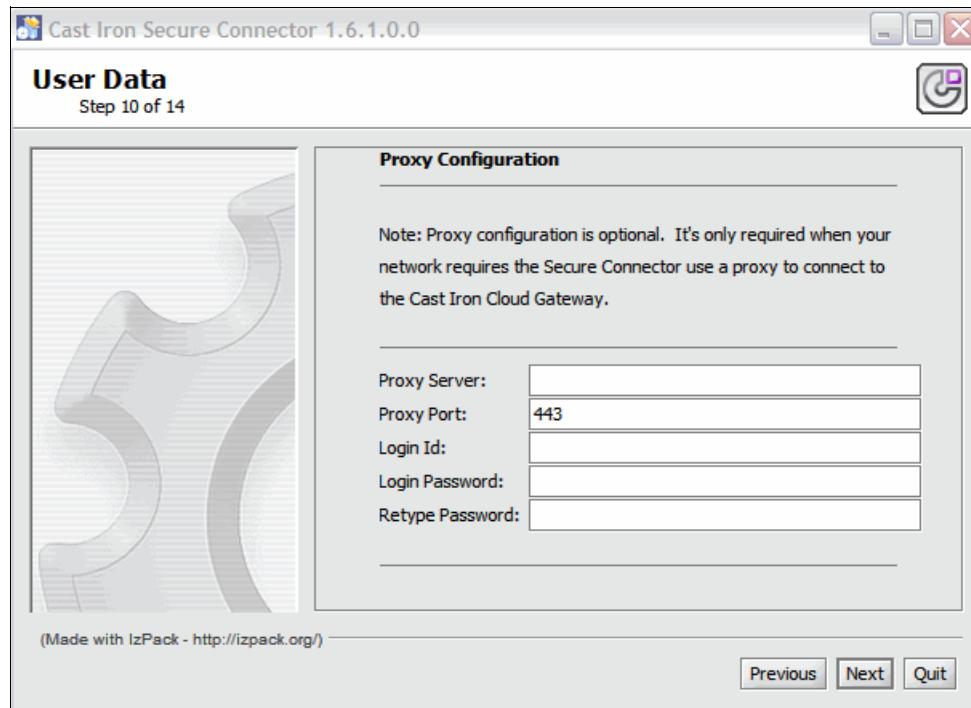

Figure 2-43 Cast Iron Secure Connector installation proxy configuration
12. If your system cannot connect directly to the Internet but is using a proxy, you can specify a proxy, including password, as shown in Figure 2-43. (The environment for this book does not need to specify a proxy.) Click **Next** to continue.